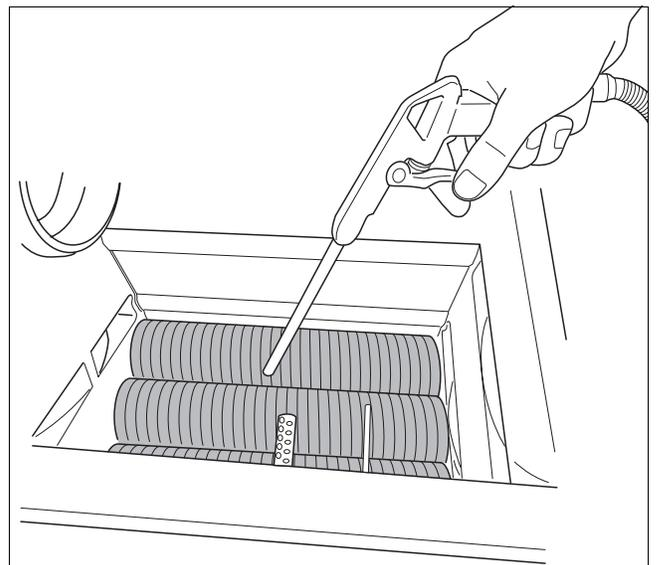

Fig. 94 Cleaning the heat exchanger
- Clean the heat exchanger with compressed air or a soft brush (fig. 94).